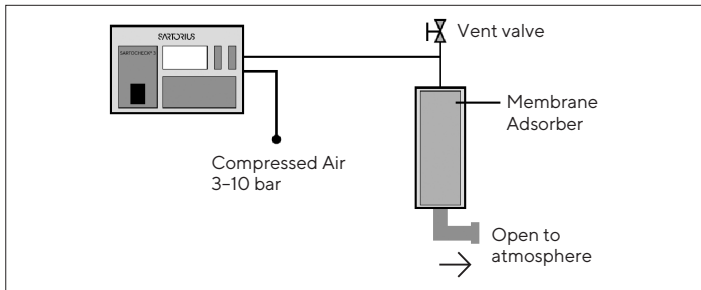

Fig. 8: Set up of diffusion test with Sartochek®.
- ▶ Install adsorber as shown in Fig. 8.